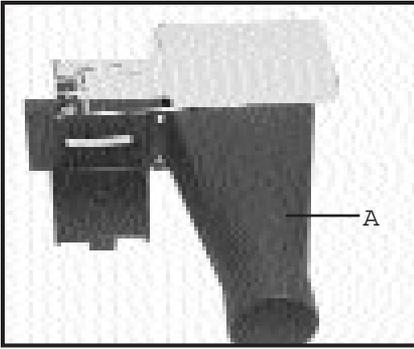

Fig. 8
6. Position the rear cutter guard (A) Fig. 8, to the right fence bracket and top cutter guard assembly. Secure with two #10-32 x  $3\frac{3}{8}$ " screws.